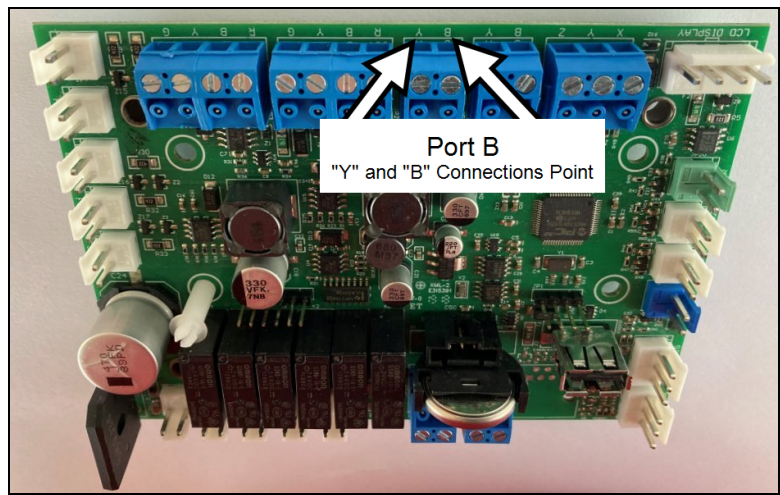

Figure 9 - Wires to Port "B" on HP9
9. Connect the wire to the heat pump's control board (RS-485 Port "B") as specified below. See Figure 9.